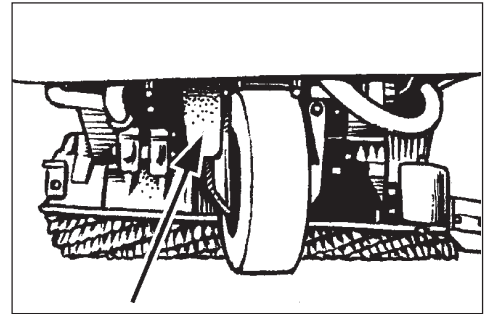

Figure 48
- NOTE:** The solution tank does not have a drain hose. It is drained through the filter body located in the front and underneath the machine (see figure 48).
4. Unscrew the filter housing by turning it counter-clockwise (see figure 48). Remove the filter screen from the housing and clean it carefully.